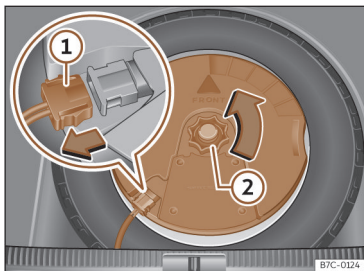

Fig. 224 In the luggage compartment: remove the subwoofer.
- Disconnect the *subwoofer*»» **Fig. 224** ① speaker cable.
- Turn the securing wheel in an anti-clockwise direction»» **Fig. 224** ② .